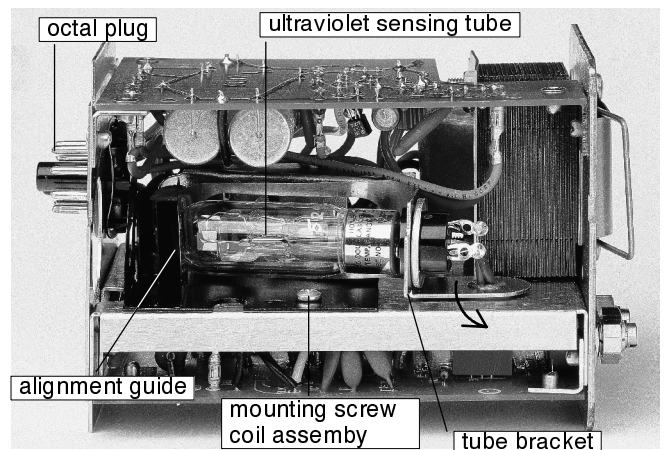

Fig. 19. Top view plug-in electronic chassis
2. Locate the sensing tube near the top of the chassis (Figure 19.).
4. Remove the mounting screw (Figure 19.) from the base of the coil and shutter assembly.
6. Gently push the alignment guide away from the tube (just enough to free the tip of the sensing tube) and swing the tube out from the chassis as far as it will go (Figure 19.)
7. Remove the other mounting screw (Figure 19.) from the base of the coil and shutter assembly.